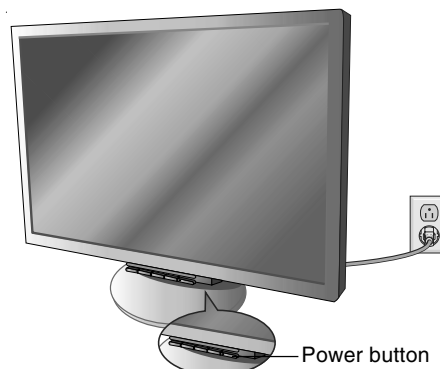

Figure D.3
10. Connect the power cord to the power outlet (**Figure D.3**).
11. Turn on the monitor with the front power button and the computer (**Figure D.3**).